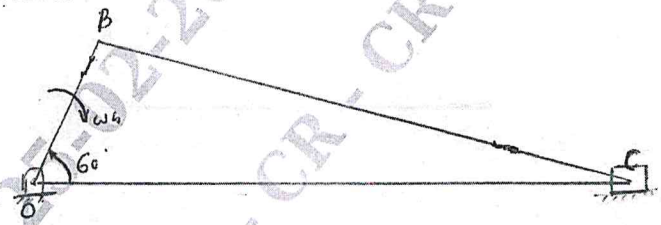

Fig. Q3
- 3 In a slider crank mechanism, the crank $OB = 30$ mm and the connecting rod $BC = 120$ mm. The crank rotates at a uniform speed of 300 rpm clockwise. For the crank position shown in Fig. Q3. Find (i) Velocity of Piston 'C' and angular velocity of connecting rod BC. (ii) Acceleration of Piston 'C' and angular acceleration of connecting rod BC. Solve the relative method. (16 Marks)